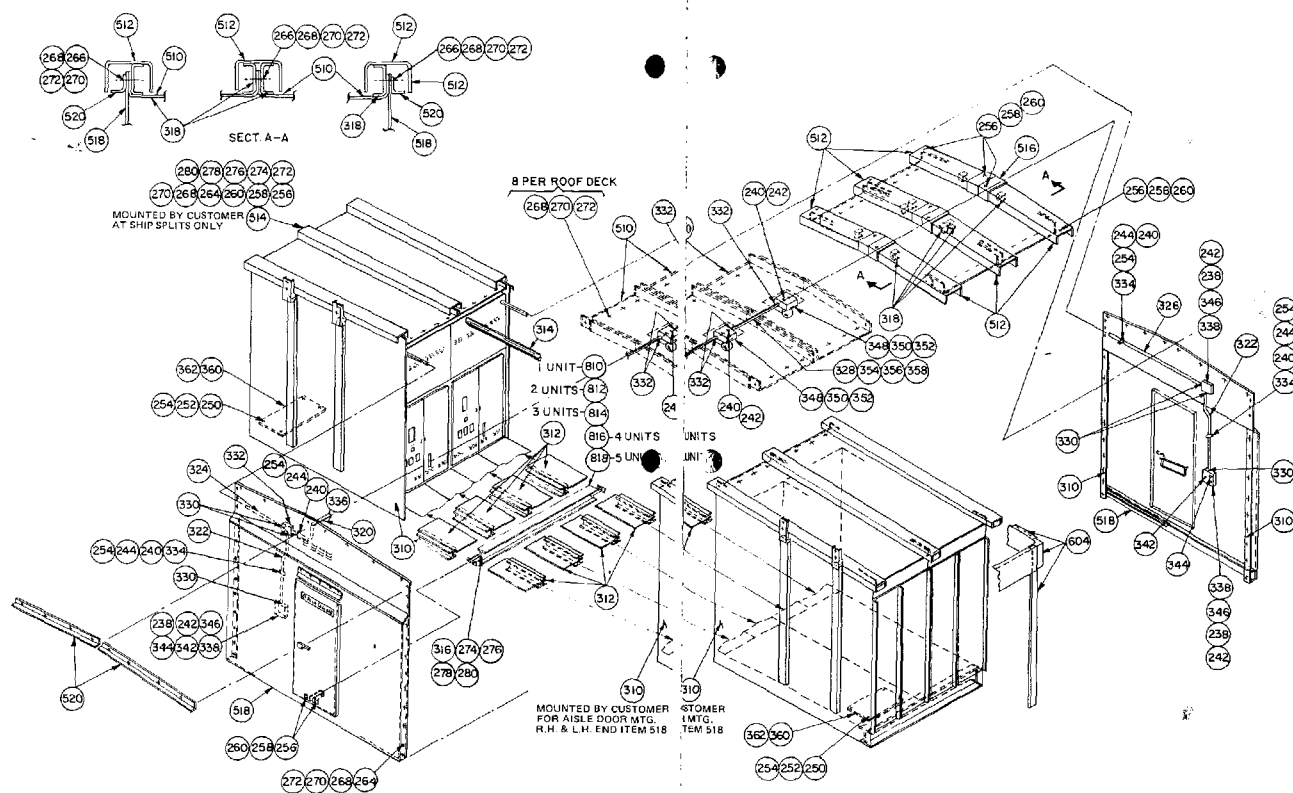

Figure 17. Aisle Assembly -- Type "SIV"
1. Place aisle beam in position (Fig. 17) and secure with anchor bolts.
2. Attach angles (316) to ends of aisle beam as shown.
3. See Fig. 17. Install all floor plates (312) using pattern shown. Each plate overlaps the supporting member of the next plate; determine sequence of installation. Place each set of aisle floor plates in line with cubicle floor plates to equalize the space between the floor plates and prevent a wide crack at end of group.
4. Install sealant tape (310) at points "C" and "D". Place the tape so that one edge is on the vertical centerline of the holes and the other edge is toward the seam which will be exposed to the weather.
5. See Fig. 17. Raise door assemblies (518) into place. Bolt doors to side plates of cubicles. Bolt to aisle sill using angles (316).
6. Mount aisle conduit, switches, receptacle and wire to junction boxes. See conduit arrangement, Fig. 17.
7. Place roof decks (510) in position and fasten with the bolts provided.
8. Fasten roof decks together using brackets (308). See view "A", Fig. 17.
9. Add trim angles (520) at each end of group.
10. Set channel-shaped covers (512) over the joints of roof decks and slide the covers up so the clips on the inner surface (Fig. 17) engage the brackets (318).
11. Bolt hoods (516) in place.